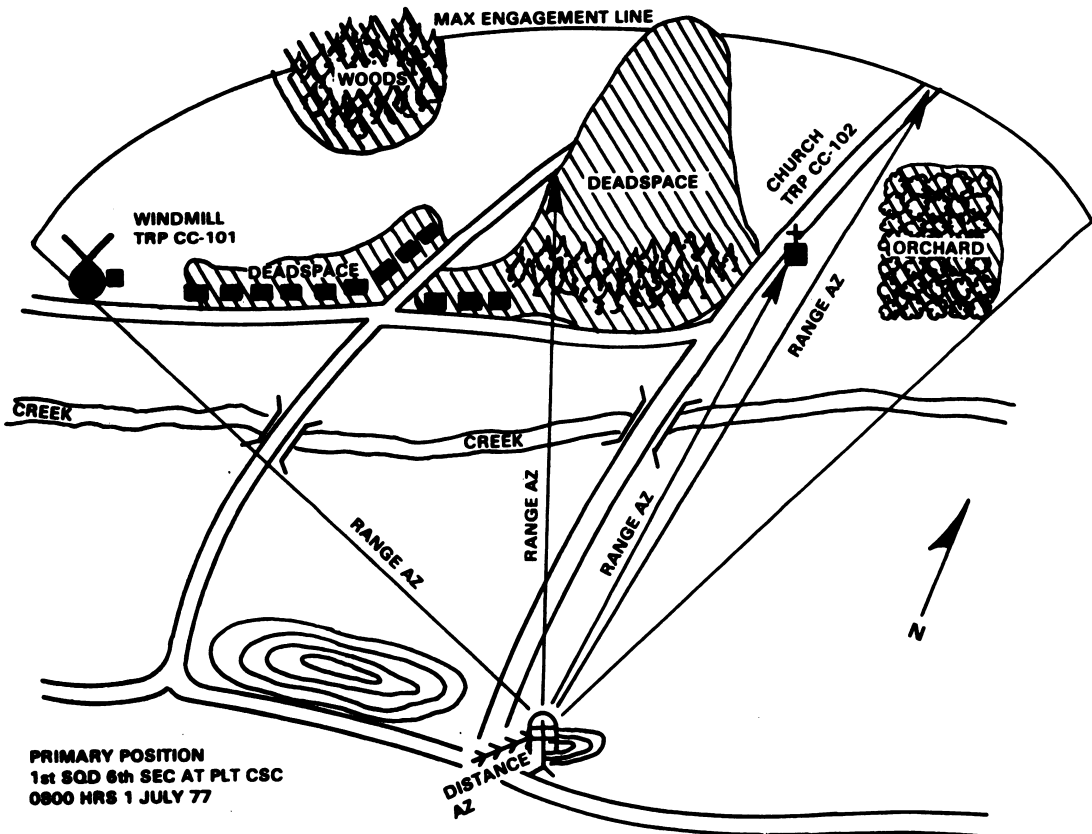

Figure 9
(5) Orient the range card with the terrain and determine the direction of magnetic north with a compass. Draw a magnetic north arrow using the straight edge of the compass (fig. 9).
(6) In a corner of your range card, place the following marginal data which is used by leaders to identify range cards:
(a) Unit description--Never indicate your unit higher than your company. If your range card gets lost, the enemy will not be able to learn important military information if they find your range card (fig. 9).
(b) Time and date of preparation (fig. 9).
(c) Type position (primary, alternate, supplementary) (fig. 9).